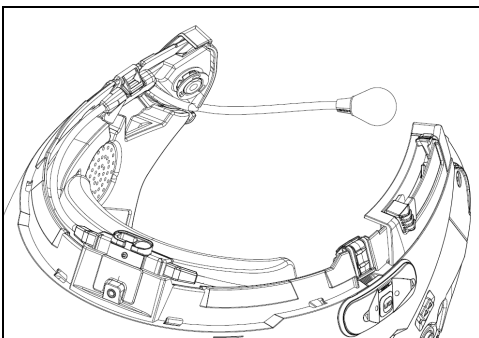

Fig. 10
- Position the microphone in the housing on the left of the helmet, inserting the metal boom in the groove found in the chin guard coupling frame (Fig. 10).